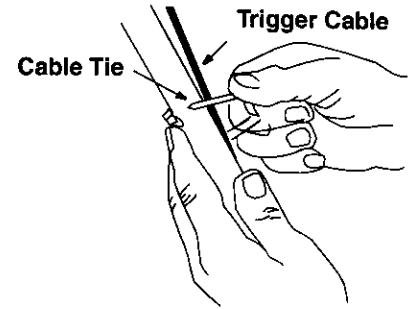

Figure 14
- Secure the right turn trigger cable to the right lower handle using cable tie provided in the hardware pack. Make sure not to wrap the drive cable. See Figure 14.